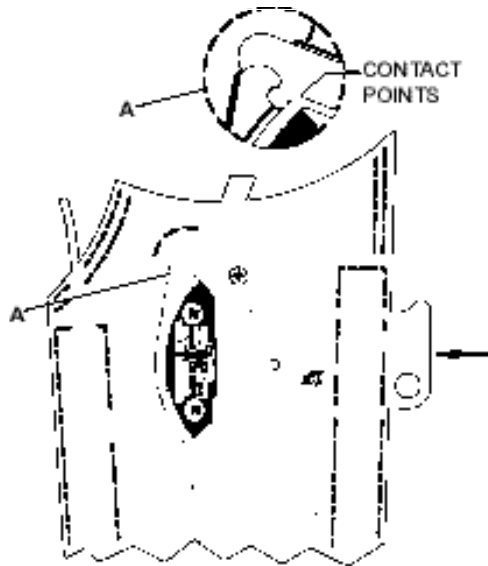

FIGURE 1.
- c. Refer to Figure 1. Slide the metal head of the slack checker under the power cable from the right side so the cable slips into the curved groove between the metal head and plastic handle. Engage the two contact points on the hooked end of the slack checker with the mouth of the end fitting of the power cable housing. The slack checker should be held flat against the parachute pack. The two contact points must be engaged at all times to ensure proper inspection.